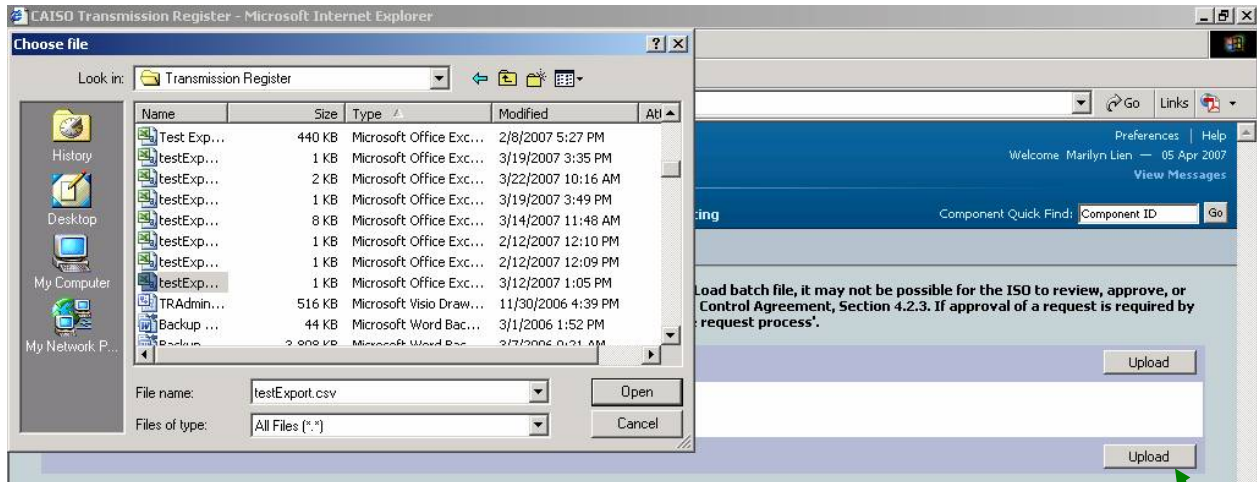

Figure 10. “Browse” File Manager
- **Press** the Browse button and the file manager shown in Figure 10 appears.